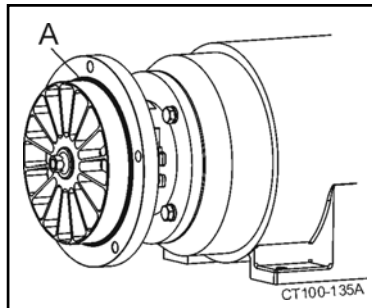

Figure 10 - Remove Cover O-ring
- Remove backplate cover o-ring (Figure 10, item A).